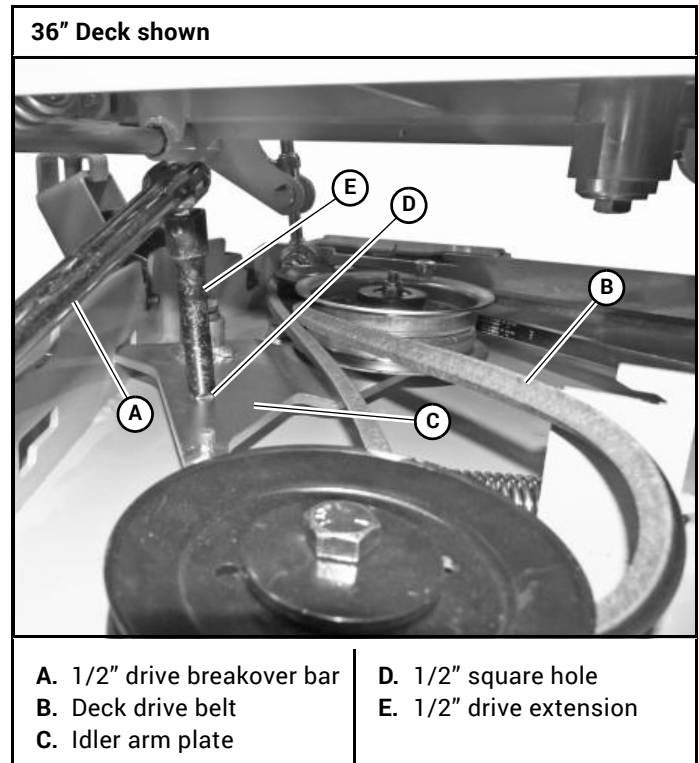
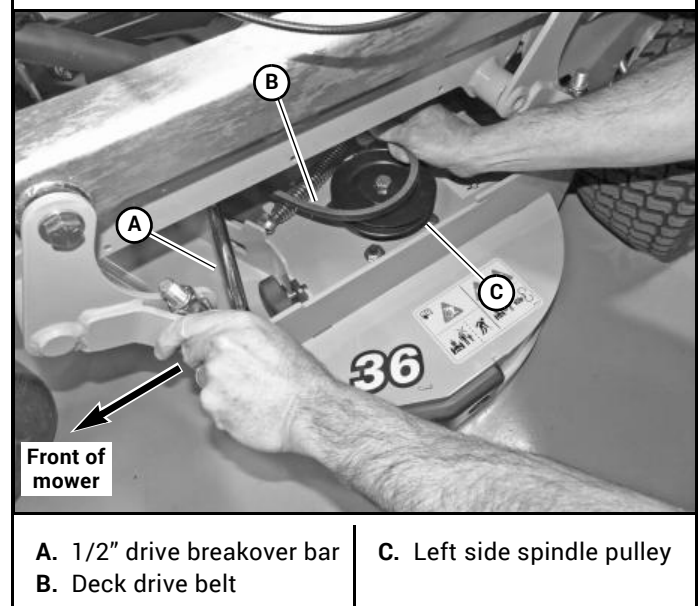

Figure 6-12
Figure 6-13
5. Go to the left side of the deck and insert a 1/2" drive breakover bar with an extension into the 1/2" square hole in the deck idler arm plate. Rotate the breakover bar towards the front of the mower to release the belt tension. Figure 6-12 & Figure 6-13
9. Use the 1/2" breakover bar and extension to ease the idler pulley tension, slide the belt over the left side spindle pulley. Slowly allow the idler pulley to engage the deck belt. Remove the 1/2" breakover bar and extension. Figure 6-13